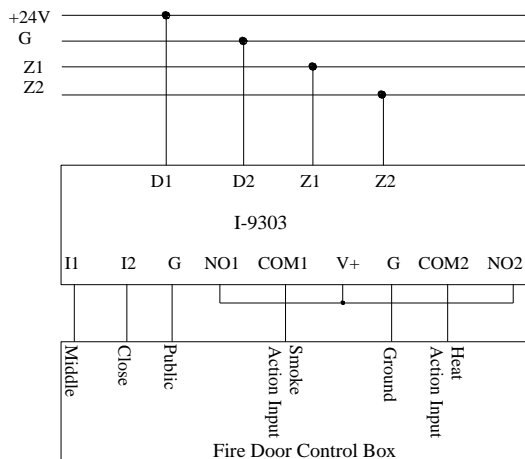

Fig. 5
- ✧ The module connects with fire door control box, as shown in Fig. 5.